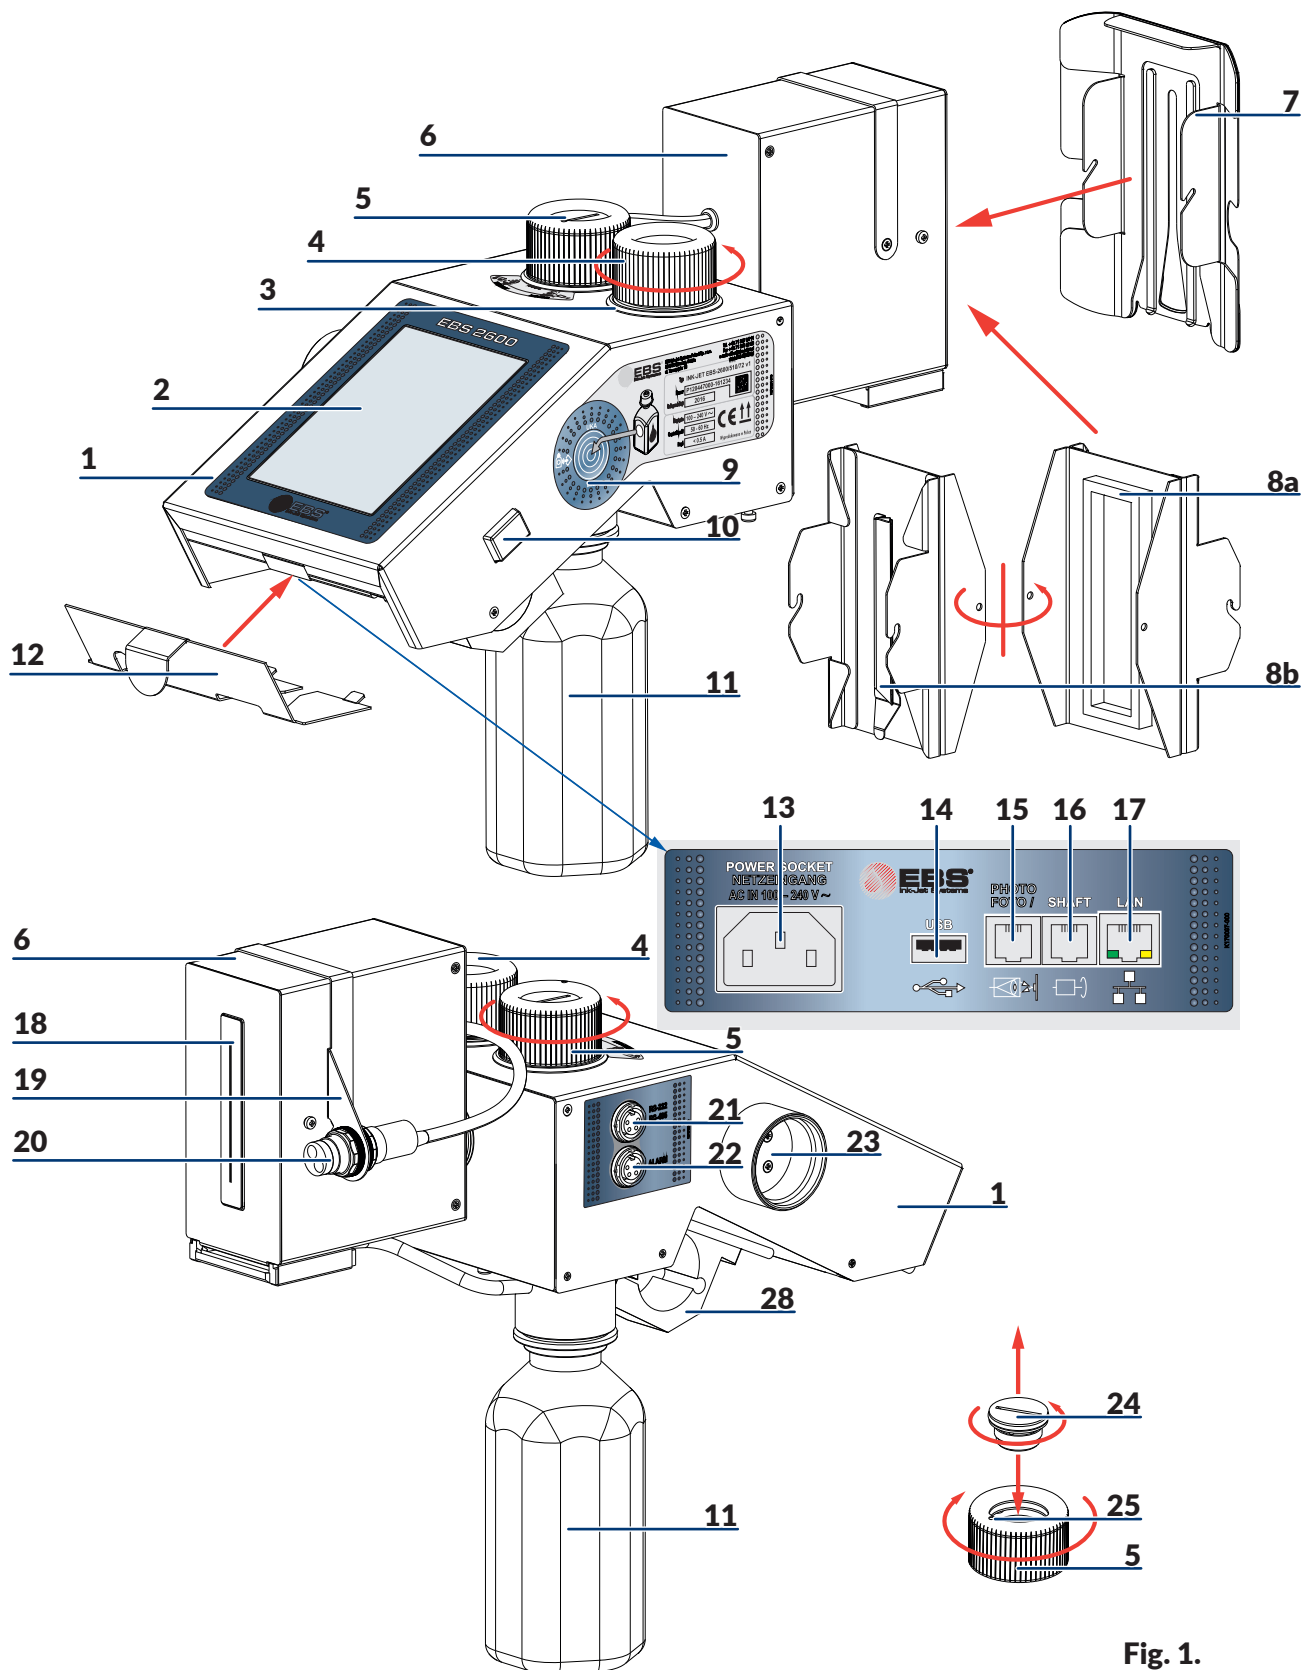
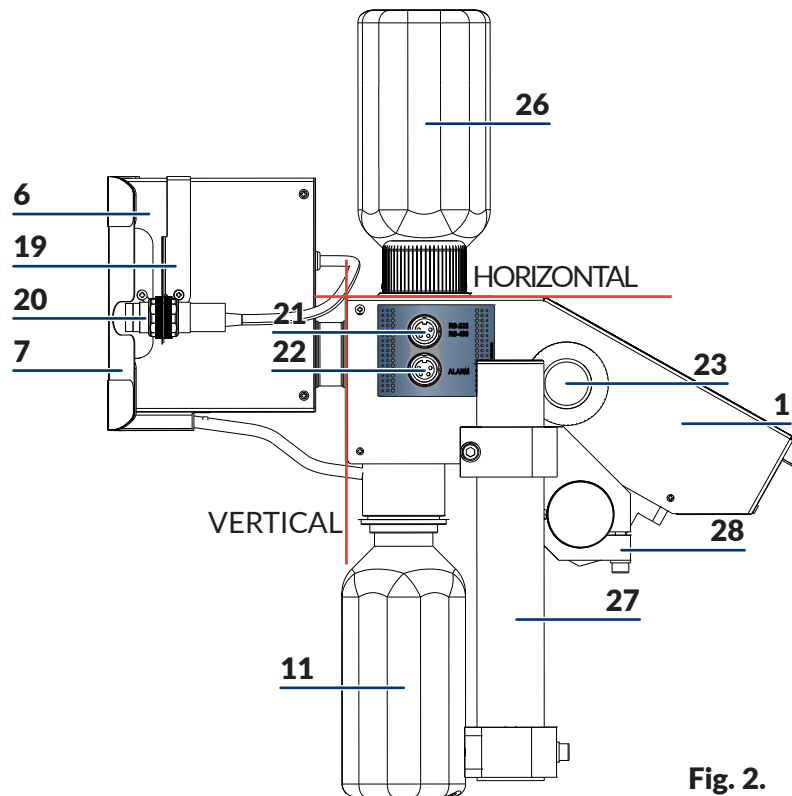

Fig. 1.
Fig. 2.
- If you need to disconnect the printer from the electrical mains, take out power plug from the mains socket **13** (see **Fig. 1 (p. 11)**).
See Fig. 1 (p. 11) and Fig. 2 (p. 12).
See **Fig. 1 (p. 11)**.
3. Unscrew cap **4** out of sea **3** carefully (the direction of unscrewing is shown in **Fig. 1 (p. 11)**) and remove it. Put the unscrewed cap **4** in seat **23** which is on the left-hand side of the controller.